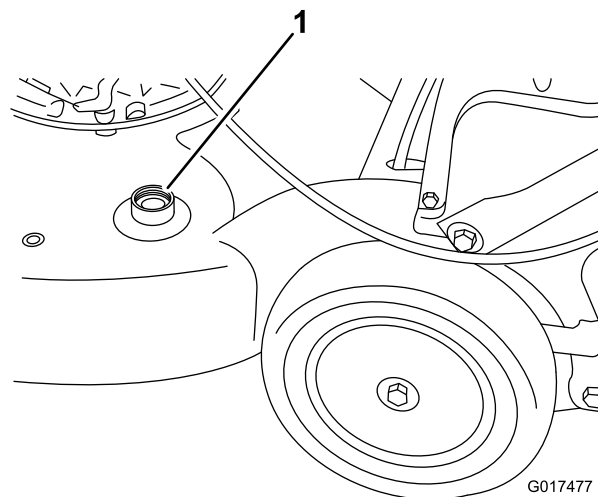

Figure 42
3. Attach a garden hose that is connected to a water supply to the washout port on the machine housing (Figure 42).